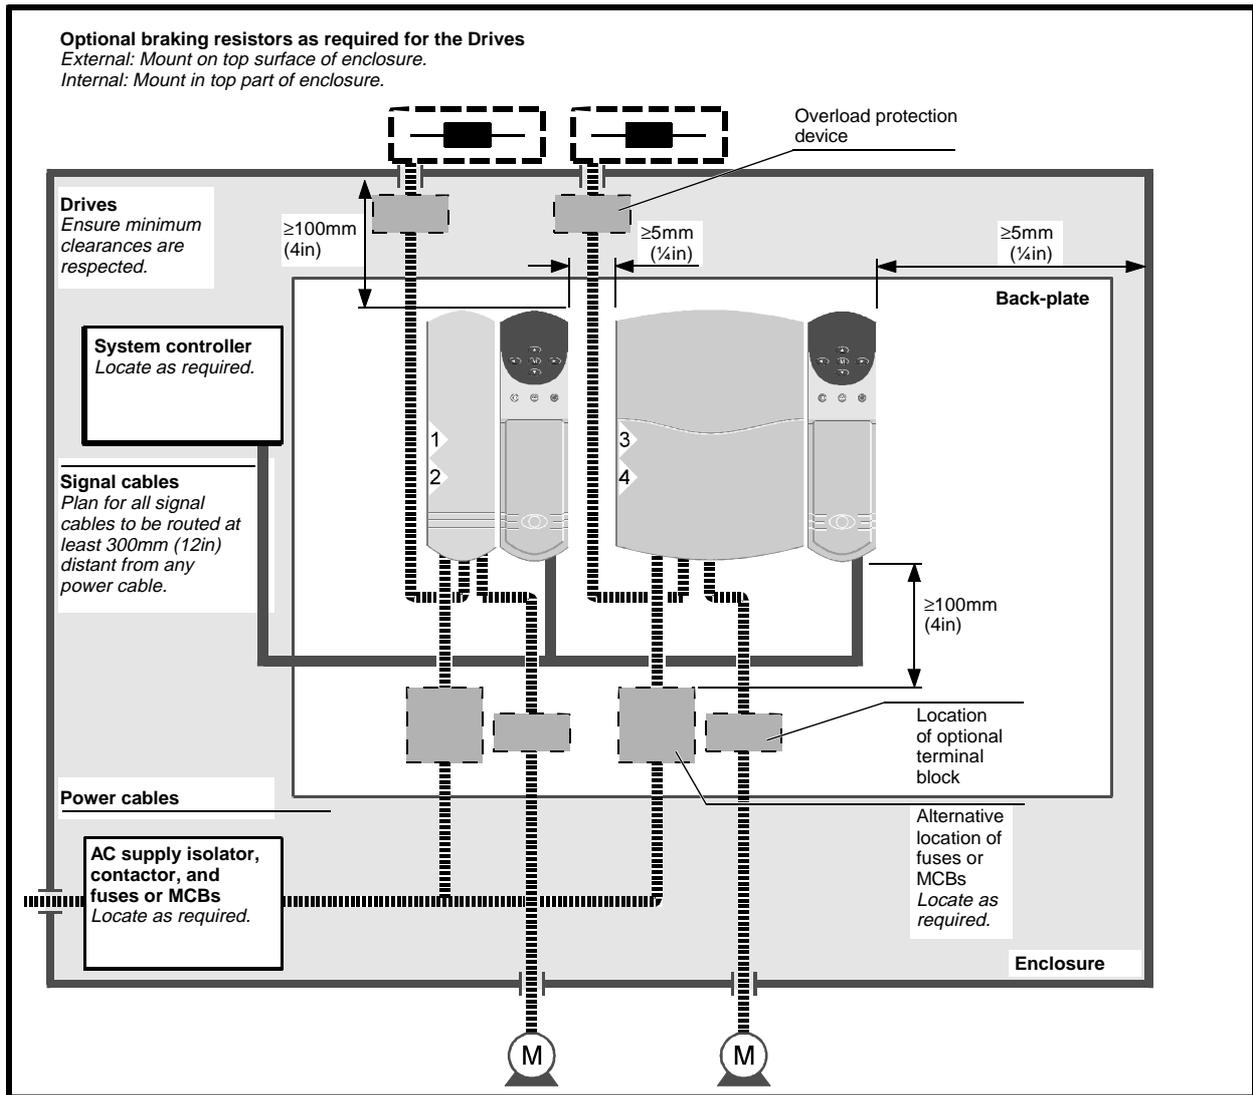

Figure 2–3 Recommended layout for routine EMC precautions (wiring recommendations are given in Figure 2–21)
Routine EMC precautions Refer to Figure 2–3 which shows the recommended layout for two Drives, and the signal and power cables.
Compliance with EMC emission standards Refer to Figure 2–4 which shows the recommended layout for two Drives, two RFI filters, and the signal and power cables.
STEP 11 For compliance with EMC emission standards, ensure the enclosure is fitted with an unpainted metal back-plate for mounting the Drive and RFI filter. For example, a zinc plated steel back-plate is suitable (see Figure 2–4).
STEP 14 When compliance with EMC emission standards is required, the RFI filter must be installed at the specified position for each Drive (see Figure 2–4).